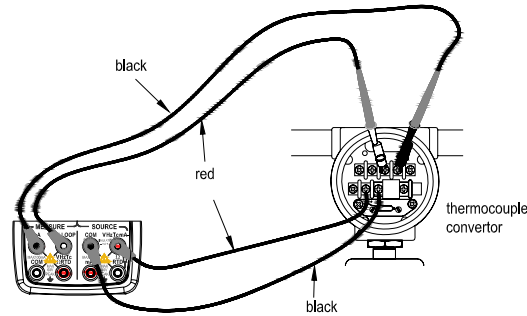

Figure 15 – A 24v loop power circuit supply
Step 2: Connect the calibrator with the loop current terminals of the converter as shown in Figure 15.